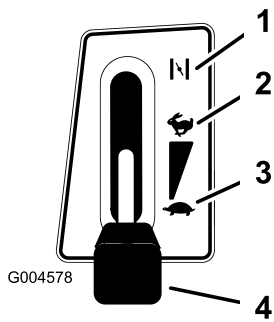

Figure 11
5. Shift the throttle lever to Choke (Figure 11).
- After the engine starts, slowly shift the throttle lever to Fast (Figure 11). If the engine stalls or hesitates, shift the throttle lever back to Choke for a few seconds and then shift the throttle lever to Fast. Repeat this step as required.
- Shift the throttle lever to Slow (Figure 11).